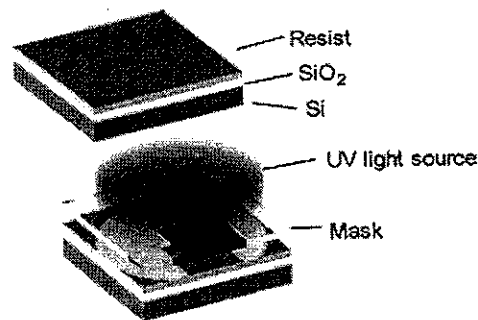

Figure 2(e): UV exposure for thermal oxidized Si wafer.
- (e) Figure 2(e) presents the photolithography process for patterning a thermal oxidized silicon (Si) wafer. Prior to the UV exposure, photoresist was applied on the wafer. The thermal oxidized wafer was then exposed with UV light through the optical mask. Sketch the photoresist patterns on Si wafer, following the photoresist development processes, using positive (+PR) and negative (-PR) photoresists, respectively. [4 marks]